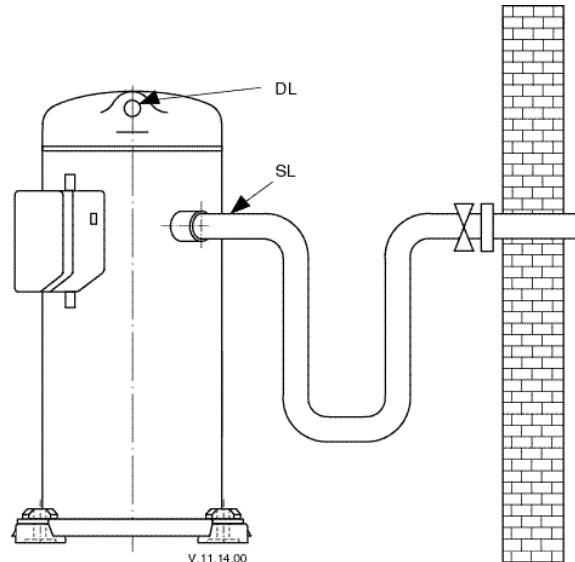

Figure 19. Suction tube design
**Recommended configuration** (Figure 19):